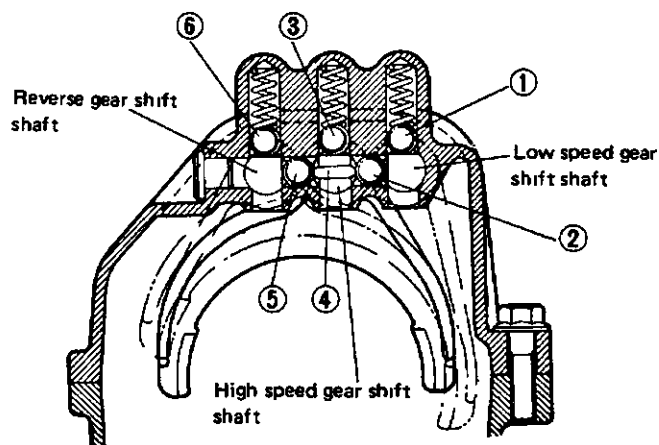

Fig. 13-64
Note that 3 shift shafts individually have a locating ball and locating spring, and that 2 interlock balls and an interlock roller are used between shafts as shown in Fig. 13-64.
- 1) Install 3 locating springs into 3 holes in upper case. Fit locating ball (① in Fig. 13-64) on top of locating spring in hole.
- 4) Install interlock ball (② in Fig. 13-64) and locating ball (③ in Fig. 13-64) in upper case. After installing interlock roller (④ in Fig. 13-64) in high speed gear shift shaft and insert shaft into upper case as described in 2) and 3).
- 5) Install interlock ball (⑤ in Fig. 13-64) and locating ball (⑥ in Fig. 13-64) into upper case. Then insert reverse gear shift shaft into upper case as described in 2) and 3).